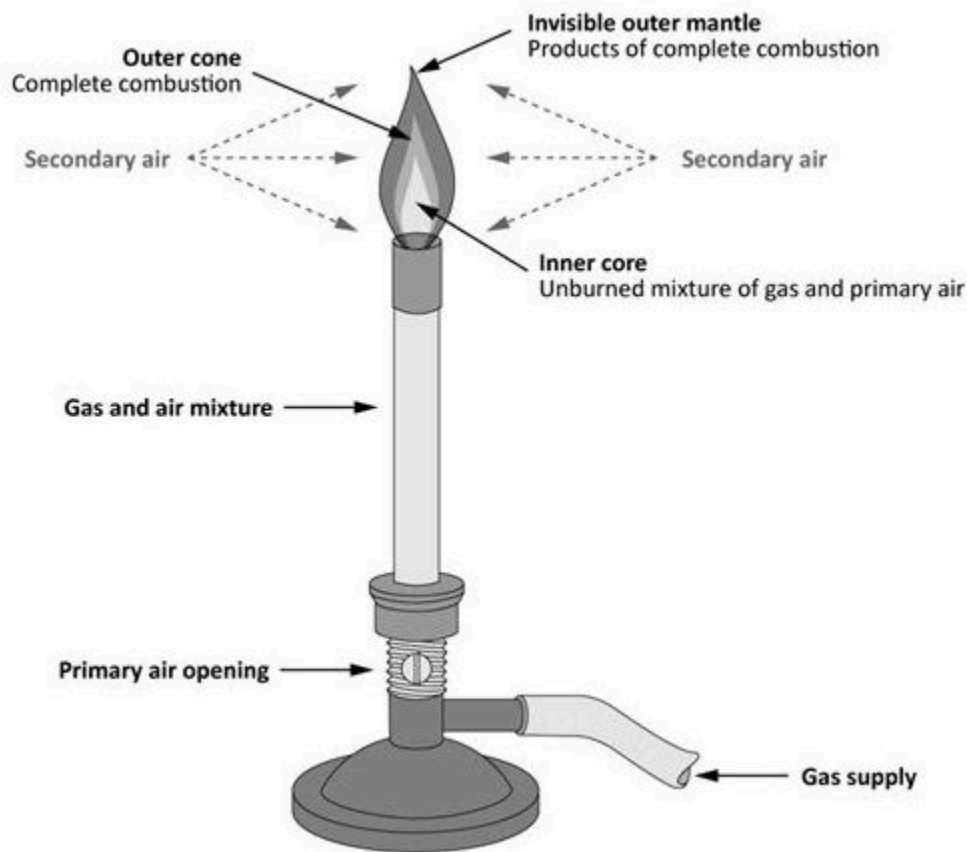

Figure 2 Bunsen Burner
- Figure 2 “Forced draft burner” by Camosun College is licensed under a CC BY 4.0 licence.
blue flame is the result of premixing primary air with the fuel. The remainder of the air necessary for combustion is supplied by the secondary air, from around the flame. A stable atmospheric Bunsen burner flame has several color zones. Each of these zones (Figure 2) marks a stage in burning of the gas.